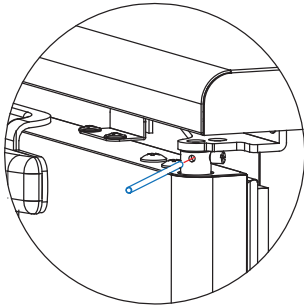

Fig 9-46
1. Remove Front Cover Grill and Shaft Cap. Insert one steel stick into the shaft hole. (Fig 9-46)